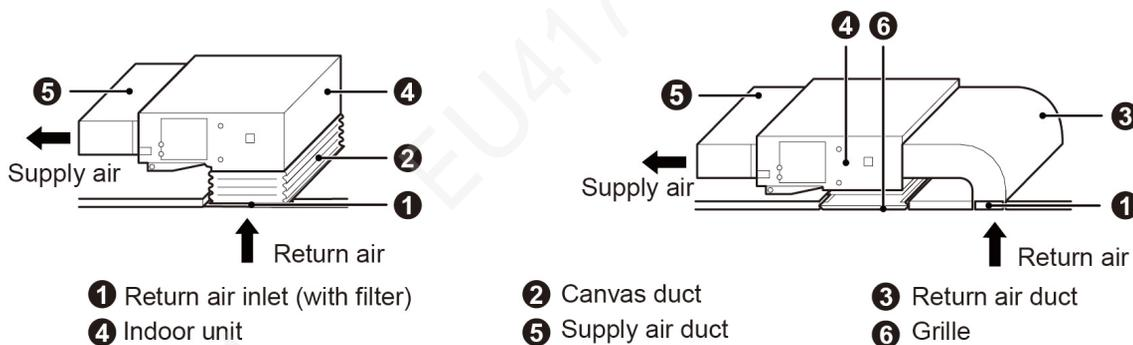

Fig.4.4.6
(2) If the bottom return air is desired, just change the place of the rectangular flange and the return air cover plate.
- (3) Connect one end of the return air duct to the return air outlet of the unit by rivets and the other to the return air louver. For the sake of the convenience to freely adjust the height, a cutting of canvas duct will be helpful, which can be reinforced and folded by 8# iron wire.
- (4) More noise is likely to be produced in the bottom return air mode than the rear return air mode, so it is suggestive to install a silencer and a static pressure box to minimize the noise.
- (5) The installation method can be chosen with considering the conditions of the building and maintenance etc., as shown in Fig.4.4.6.